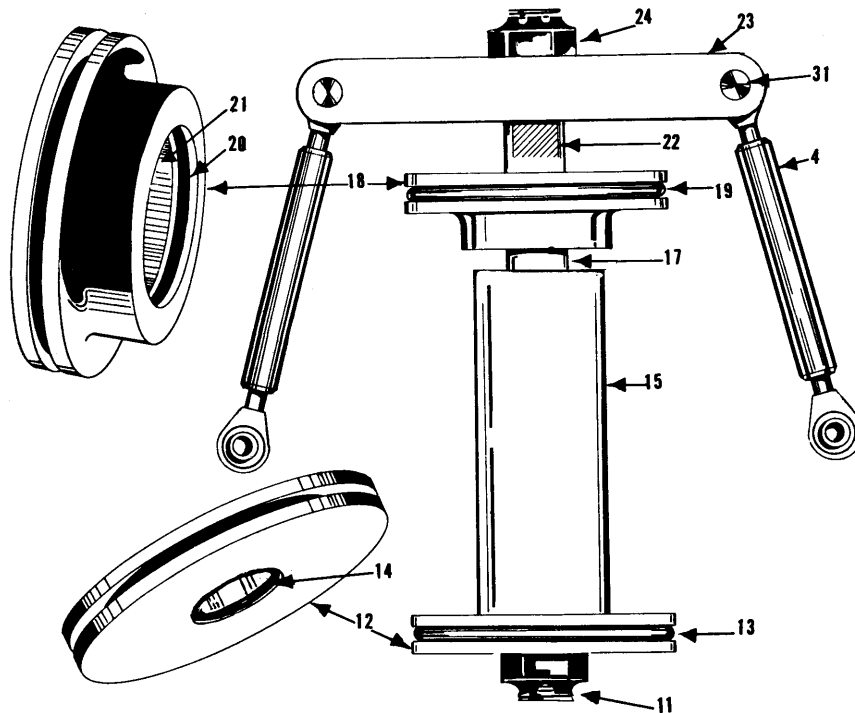

Figure 2. Pitch Control Assembly
1. Remove cotter and nut from the blade end of each pitch link (4), slide end of link from stud (5) in arm (2), and remove washer.
2. Remove snap ring (7).
3. Carefully remove through the front of the hub, the entire pitch control assembly, taking care not to tilt the piston to cause it to bind in the cylinder. Also have rags or container handy to catch oil from in front of piston. This complete assembly is shown in Figure 2.
4. Disassemble the pitch control mechanism as follows (see Fig. 2):
- a. Remove nut (11), piston (12), O-Ring (13), O-Ring (14), and high pitch stop (15) from rear end of piston rod (17).